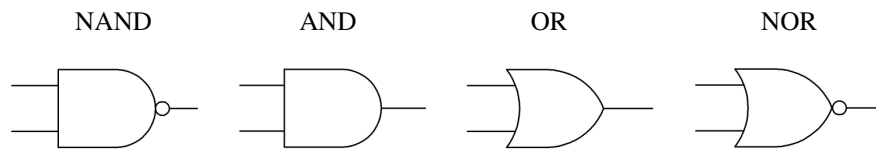

Figure 2(a)
2. Figure 2(a) shows the symbols of four logic gates.